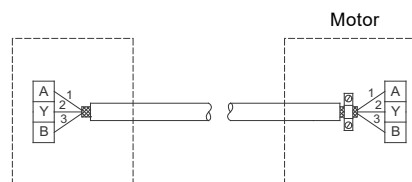

Fig. 21 Connection with screened 3-core cable
- If the unit has no cable clamp as shown in fig. 21, leave the screen unconnected at his end.